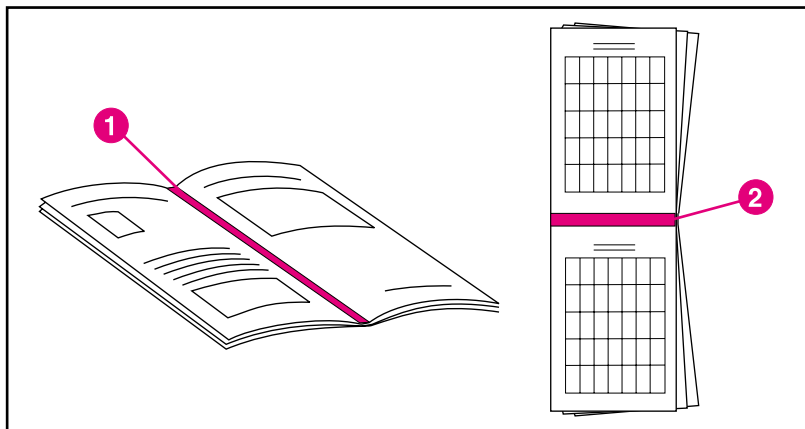

Figure 3-4 Binding options
- 6 Press **VALUE** to select either LONG EDGE or SHORT EDGE binding (see figure 3-4).
- *Long-edge (book) binding*, which is the conventional layout used in book binding. (See 1 in figure 3-4.)
- *Short-edge (tablet) binding*, which is the type often used with calendars. (See 2 in figure 3-4.)